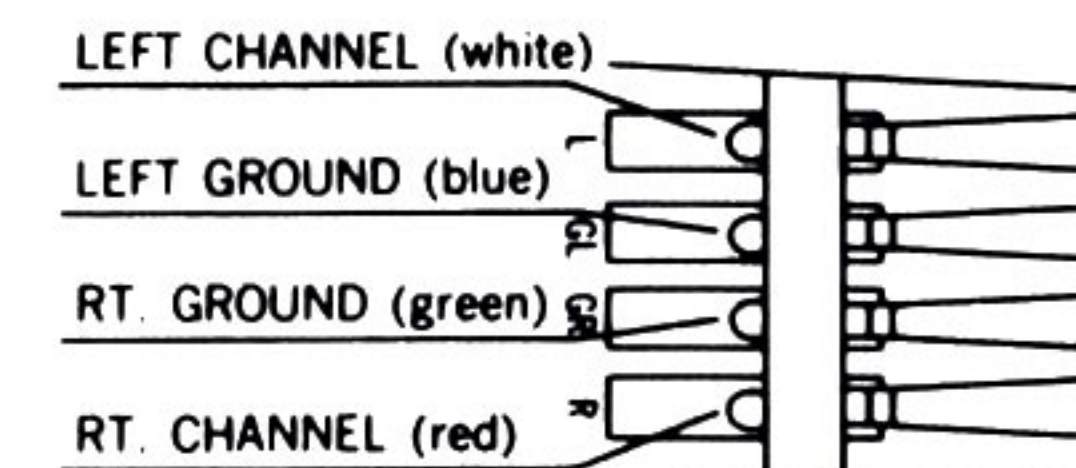

Fig. 6. Cartridge lead connections.
4. Connect each lead on the cartridge holder to its corresponding pin on the cartridge. Each lead is color-coded as shown in Fig. 6.